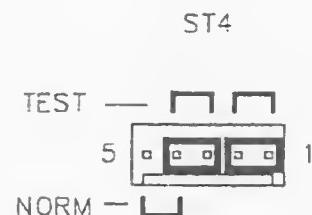

figure 1
- 3.10 Remove Convertor Board to D.S.P Board ribbon cable (CB3). Reconfigure ST4 links on Convertor Board to 'Test' position (see figure 1). If a spare link is not available use link at ST8 on Micro Board. If the signal now appears on the outputs the fault lies on the D.S.P Board, otherwise the fault is on the Convertor Board.
- 4.02 Remove Convertor Board to D.S.P Board ribbon cable (CB3). Reconfigure ST4 links on Convertor Board to 'Test' position (see figure 1). If a spare link is not available use link at ST8 on Micro Board. If the signal is now OK the fault lies on the D.S.P Board.